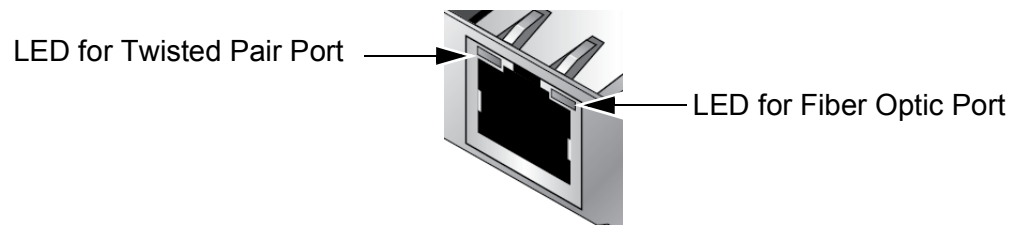

Figure 6. Twisted Pair Port and LEDs
**Twisted Pair Copper Port** The AT-2914GP/SP network adapter is equipped with a PoE+ copper port for a 10/100/1000BASE-T twisted pair cable. See Figure 6.